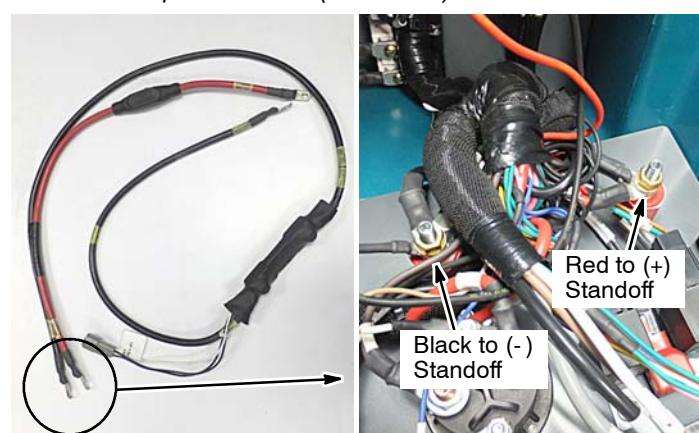

Fig. 5
1. Connect the pre-assembled telemetry battery cable harness to the electrical panel as shown (Figure 5).